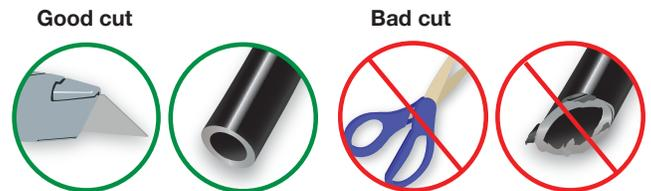

Fig. 30
2. Make clean, square cuts with a razor blade or hose cutter when cutting the air line (AA) (Fig. 30). Do not use scissors or wire cutters.